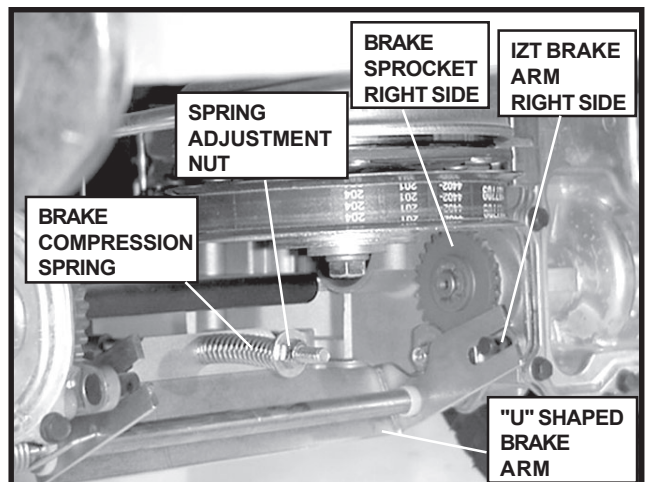

FIGURE 20
NOTE: Make sure the brake arm is engaged into brake sprocket on both sides. You can push the mower to make it engage into the sprocket. See Fig. 20.
- With the park brake in the on position, the compression spring should be 2" from the "U" shaped brake arm to the washer. See Fig. 20. If not, use two wrenches, one to hold the bolt and one to turn the nut to attain the 2".